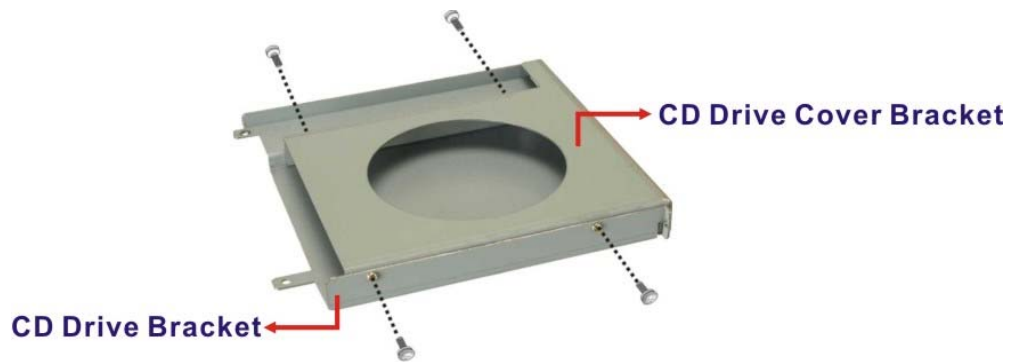

Figure 4-13: CD Drive Cover Bracket Retention Screws
- Step 3:** Remove the CD drive cover bracket by removing the four retention screws shown in **Figure 4-13**.